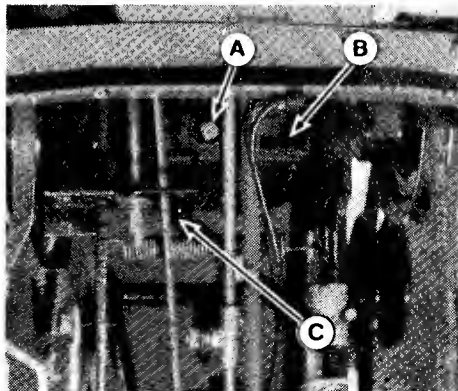

Figure 7. Bevel Gear Box
Check the bevel gear box fluid level. Remove the fill plug (A, figure 7) and wipe oil off attached pin. Insert the fill plug loosely in hole (do not screw in). In this position the fluid should just touch the bottom of the pin. If not, add multipurpose power train oil. Do not overfill. A drain plug (C) is located on rear cover.